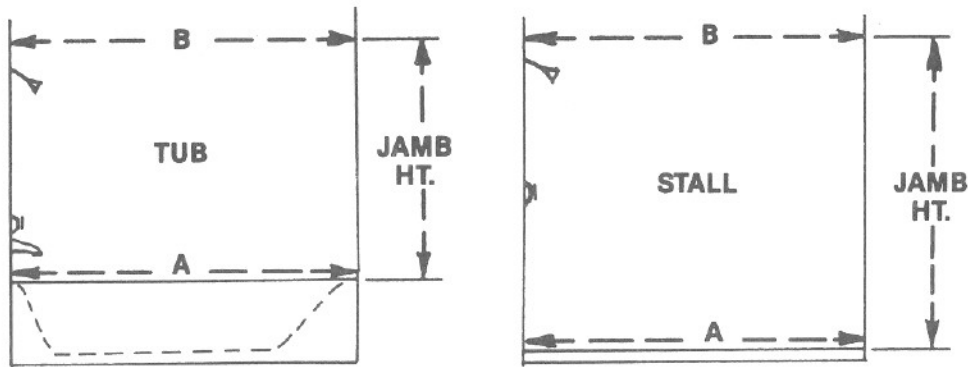

FIGURE 1
1. **MEASUREMENTS:** Measure wall to wall openings at tub rim or stall base. Mark and cut bottom track with hack saw  $1/2''$  shorter than openings. Always re-check your measurements before cutting. SEE MEASUREMENT A. FIGURE 1
Measure wall to wall openings at jamb height of tub or stall. Mark and cut header with a hack-saw  $1/16''$  shorter than wall to wall measurement at the unit height. SEE MEASUREMENT B, FIGURE 1